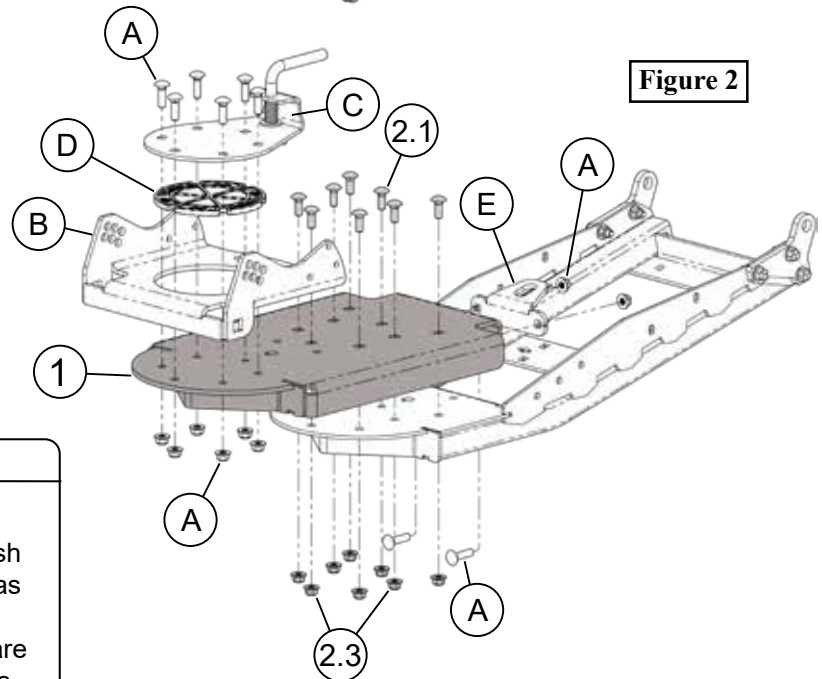

Figure 2
2. Reinstall pivot bushing (D), lift latch assembly (C), cradle (B), and cable hook bracket (E) using hardware (A) removed in step 1 onto UTV Track Extension (1) as shown in **Figure 2**.
3. Install UTV Track Extension (1) onto push tubes using bolts (2.1) and nuts (2.3) as shown in **Figure 2**.